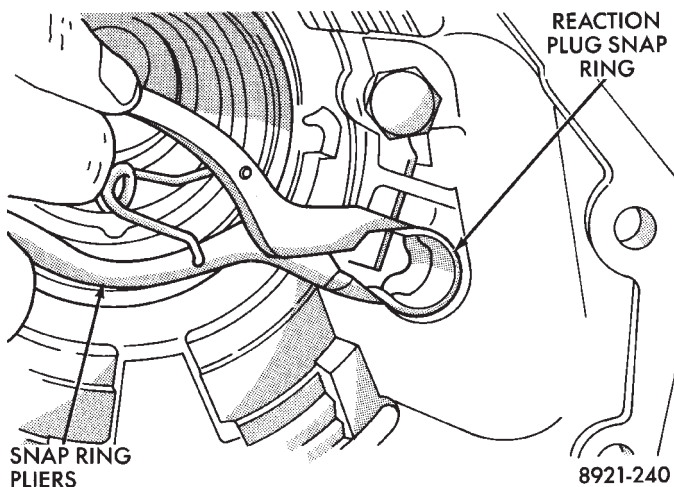

Fig. 239 Reaction Plug And Snap-Ring Installation
- (4) Install reaction plug snap-ring (Fig. 239). **Compress snap ring only enough for installation; do not distort it.**
- (5) Install new seal in gear case. On 4x4 gear case, use Tool Handle C-4171 and Installer C-3860-A to